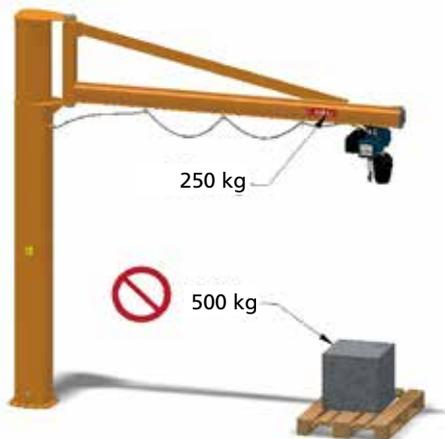

fig.63
- ▶ whose weight, including any accessories, exceeds the crane capacity (fig. 63).